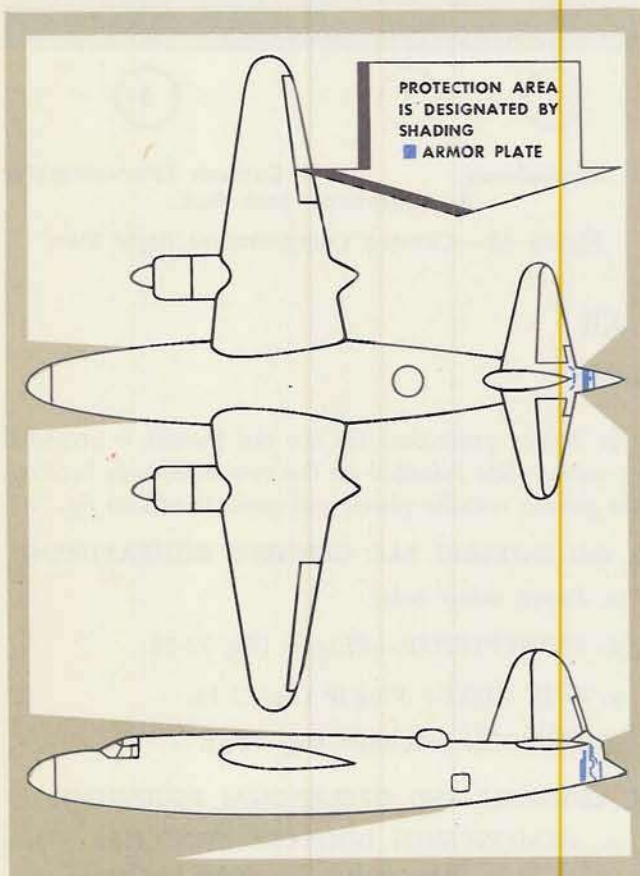

Figure 70—Tail Gunner's Armor Diagram
b. Armor protection for the tail gunner is provided by armor plate installed on the two bulkheads between the gunner and the plastic tail cone. (Refer to fig. 70.)